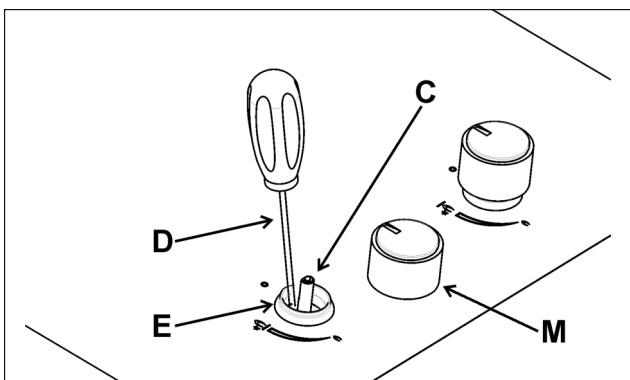
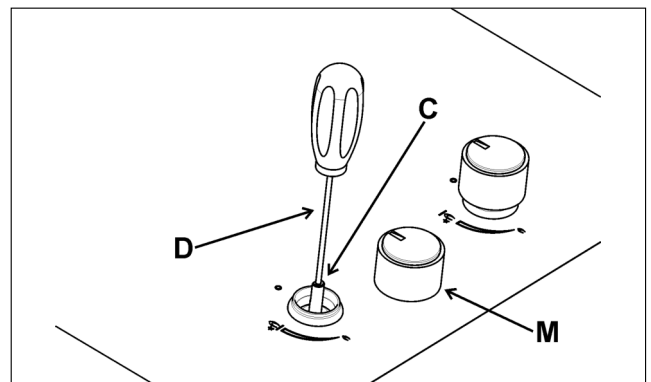

FIG. 12
FIG. 13
- Remove knob "M" (fig. 12 and 13) of the tap, which is simply pressed on to its rod. The by-pass for minimal rate regulation can be: beside the tap (fig. 12) or inside the shaft. In any case, to access to regulation, it can be done through the insertion of a small screwdriver "D" beside the tap (fig. 12) or in the hole "C" inside the shaft of the tap (fig 13). Turn the throttle screw to the right or left until the burner flame has been adequately regulated to the "Reduced rate" position.
***To adjust the minimum "DUAL" burner first remove the bushing "E" (fig. 12).***